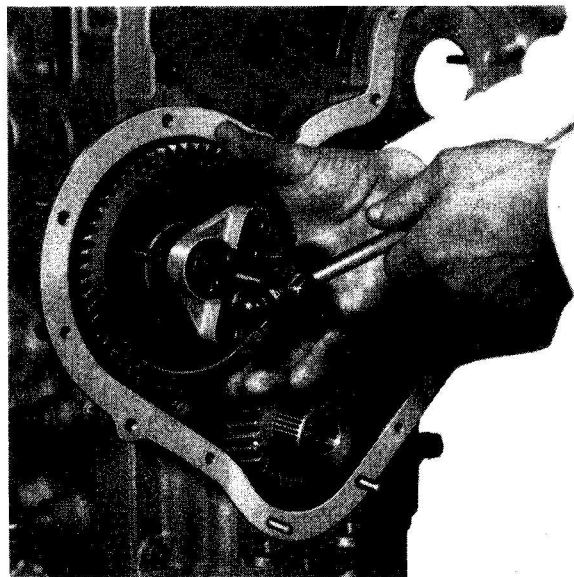

Fig. 7
3. Using a suitable extractor, remove the camshaft gear (Fig. 7).